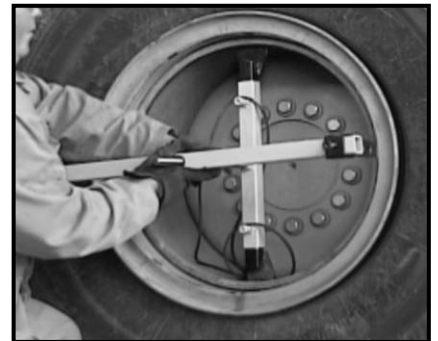

FIGURE 3
3. Slide top cross bar assembly over the threaded center rod at the nine and three o'clock positions, so that the push bars line up against the rim flange. Adjust for the tire diameter of the wheel by loosening and tightening set bolts as needed (**See Figure 3**).